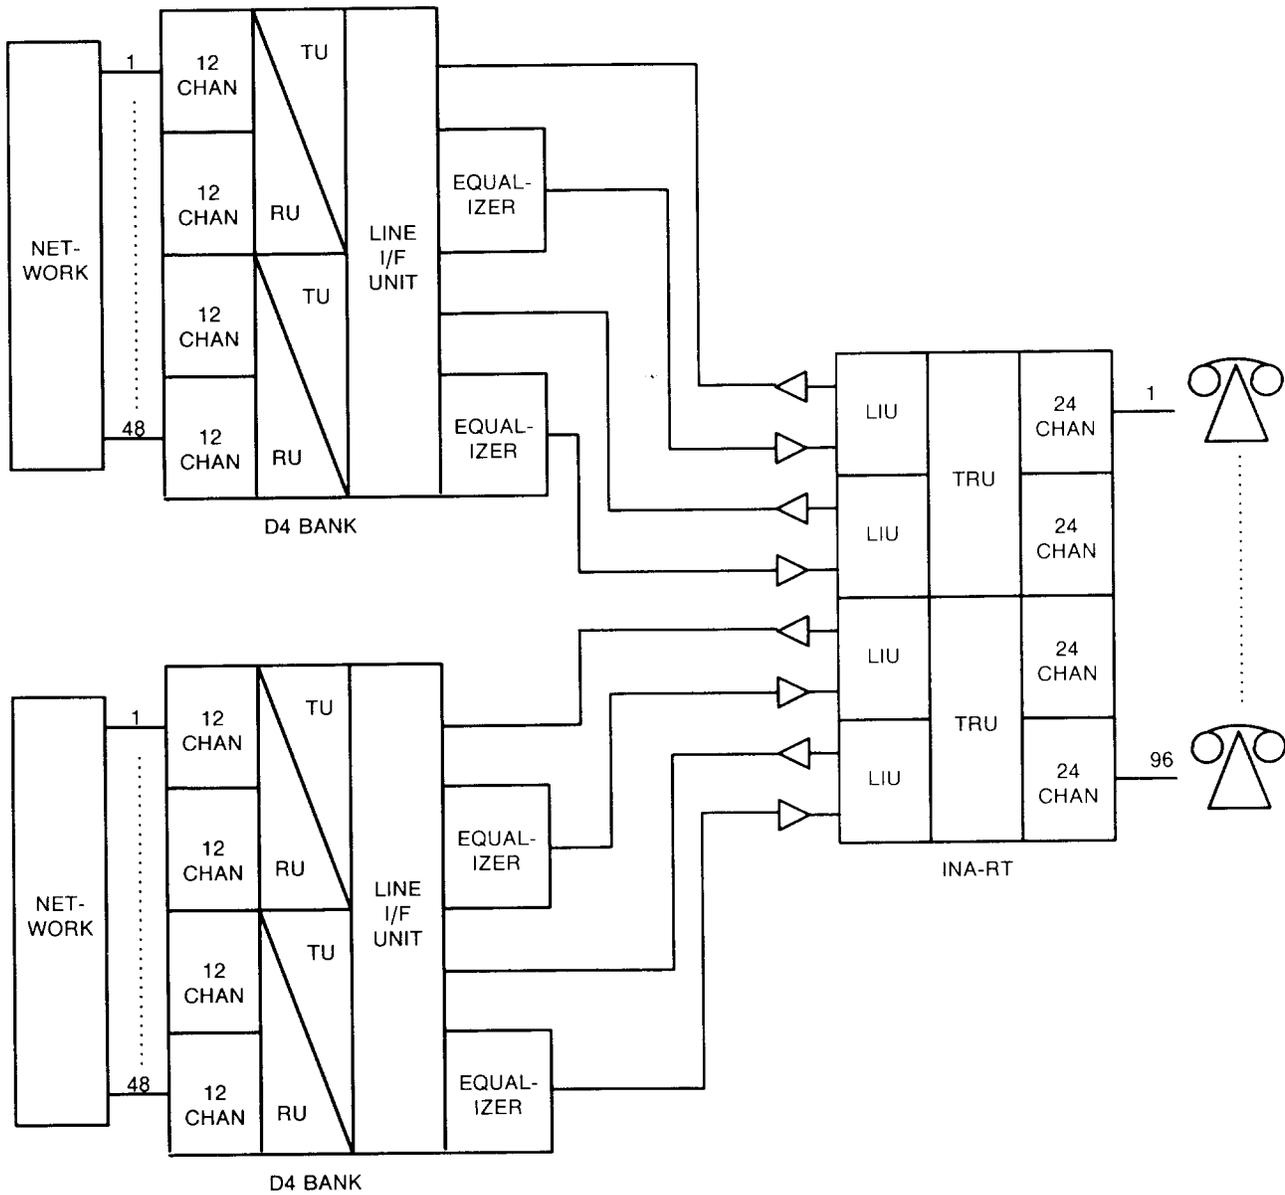

Figure 5 - Mode I INA-RT application
- 3.08** The INA-RT Mode I is recommended for banks with a large percentage of dual channel units, DDS (digital data service) channel units using SCEC (secondary channel error correction), or ISDN (integrated services digital network) T-BRITE channel units. Single-channel special-service channel units may also be used in this mode. Mode I operation offers a 4:1 space saving advantage as compared to D4 (see Figure 5).